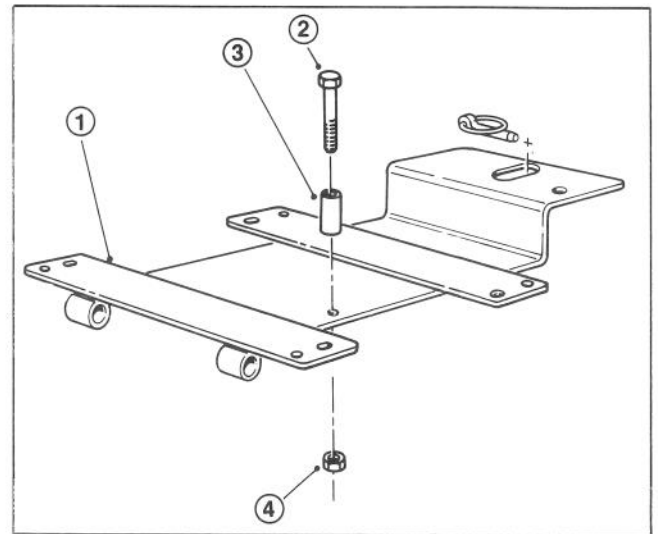

Figure 10
6. Assemble spacer to hex head capscrew, insert capscrew into hole in the seat support and secure capscrew and spacer with a locknut at the bottom of the seat support (Fig. 10).